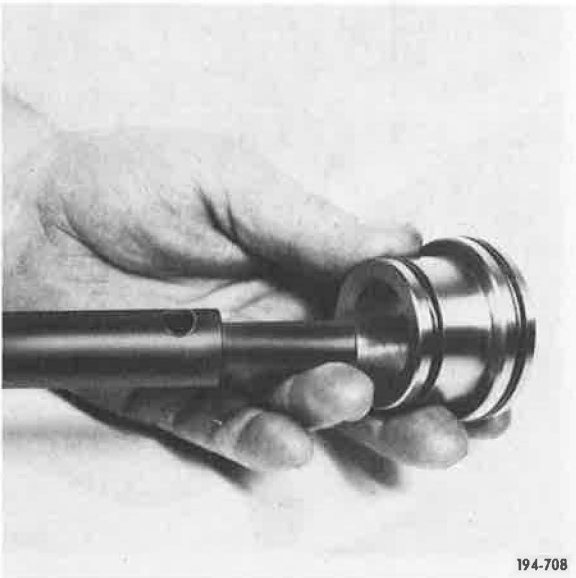

Figure 188. Removing Piston
21. Remove Direct piston from Hi/Direct shift rail. See Figure 188.